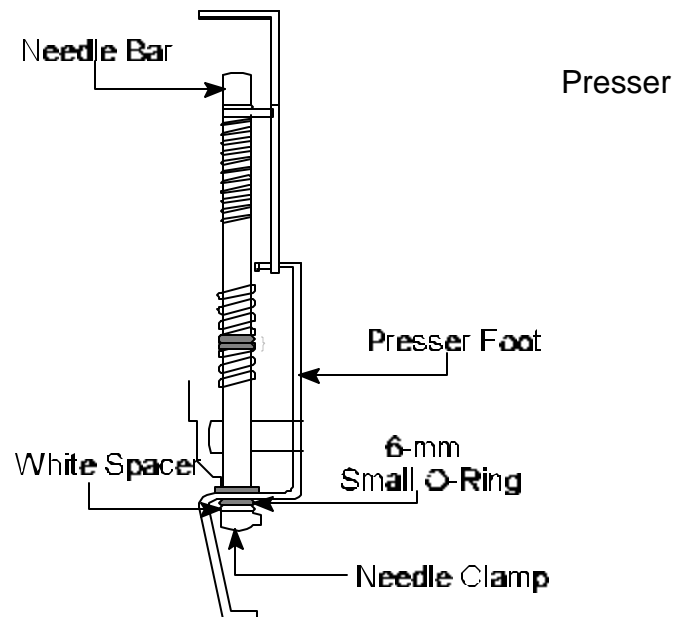

Figure 5
9. **Squeeze** and **hold** Needle Bar and Presser Foot together and **remove** needle clamp, white spacer and 6 mm O-ring. See *Figure 5*.